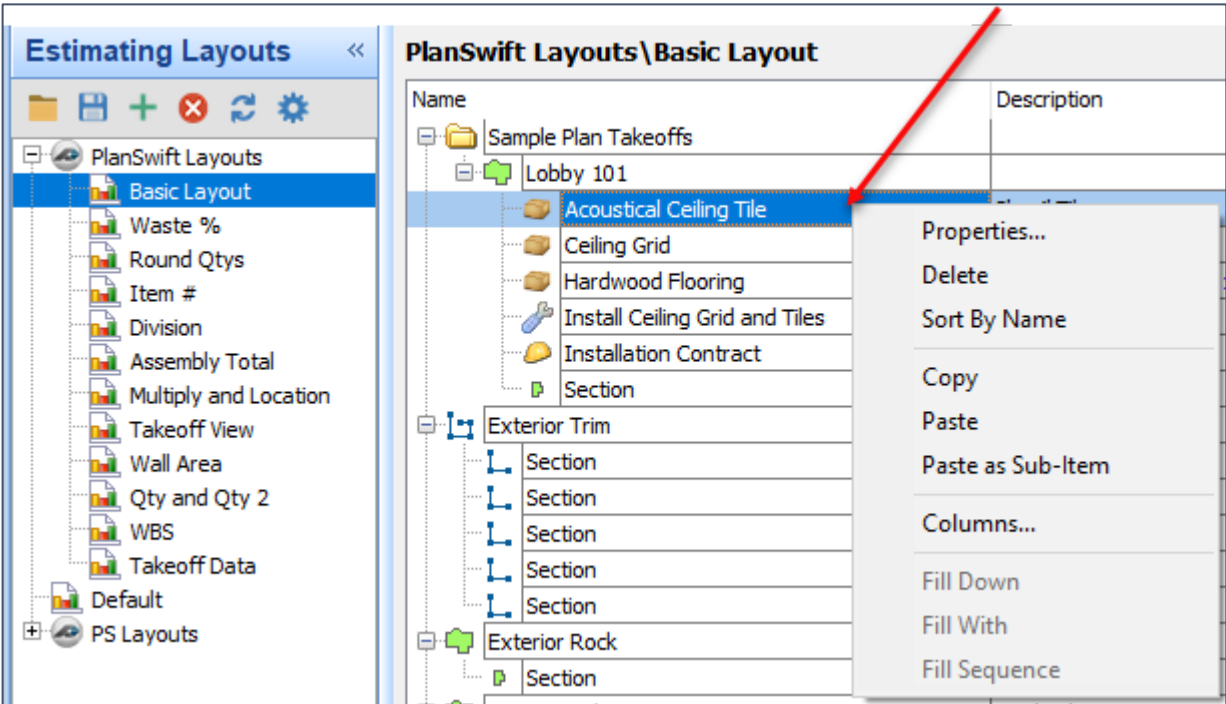

Figure 52-K
12. Right-click initiated on an Estimating total (Fig. 52-L):